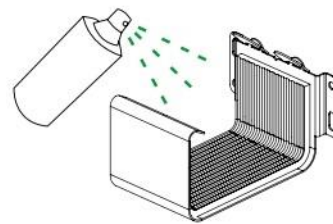

Figure 18
- 4.4. Before mounting the gutters in the expansion coupler, spray the gasket with a lubricant! (**Fig. 18**).